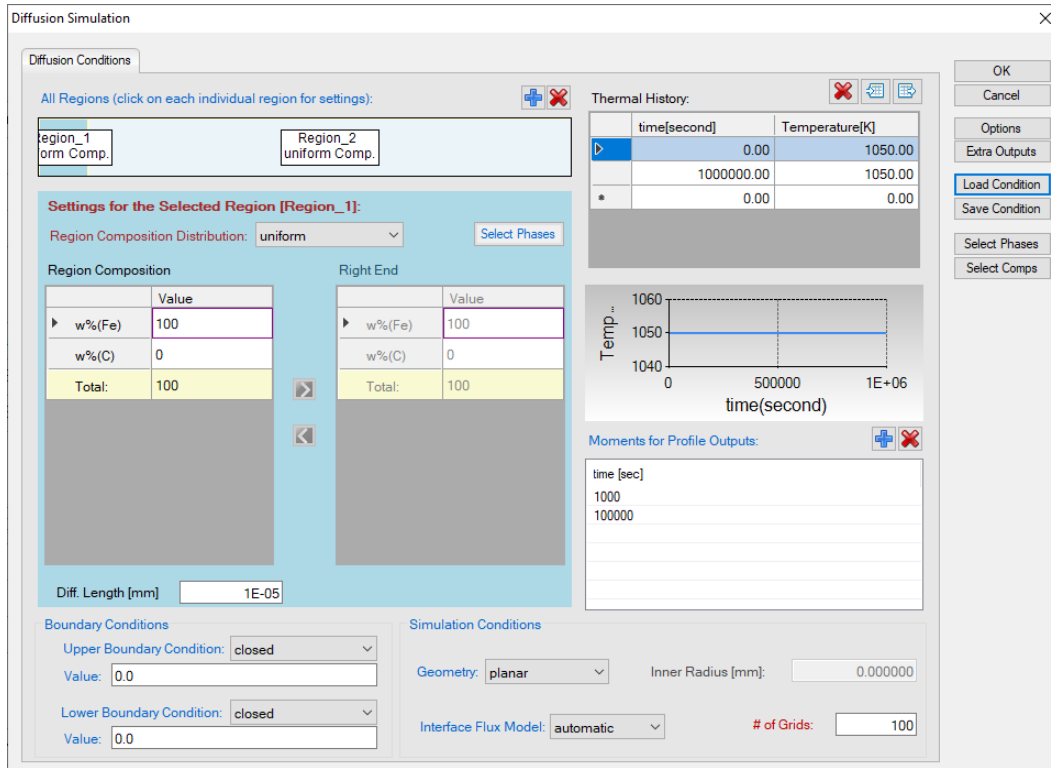

Figure 4.10.1: Setting of the simulation condition
- Click on "PanDiffusion->Diffusion Simulation" and set up the calculation condition as shown in Figure 4.10.1. Click on Region_1 and set the composition as 100Fe-0C (wt%) and select Bcc as entered phase in "Select Phases" of "Settings for the Selected Region [Region_1]". In Region_1, set the Diff. Length as 1E-5 mm. Click on Region_2 and set the composition as 99.85Fe-0.15C (wt%) and select Fcc as entered phase in "Select Phases" of "Settings for the Selected Region [Region_2]". In Region_2, set the Diff. Length as 2 mm;
- In the setting shown in Figure 4.10.1, composition profiles at the initial and final stages, as well as at 1E3 seconds and 1E5 seconds, will be outputted. Click OK to perform calculations.